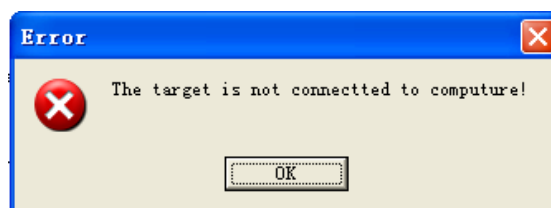

Fig 6.9
6.4.1 Connect the receiver and computer with transmission line, launch the software. When there is wrong connection or disconnection, the window Fig 6.9 will appear.